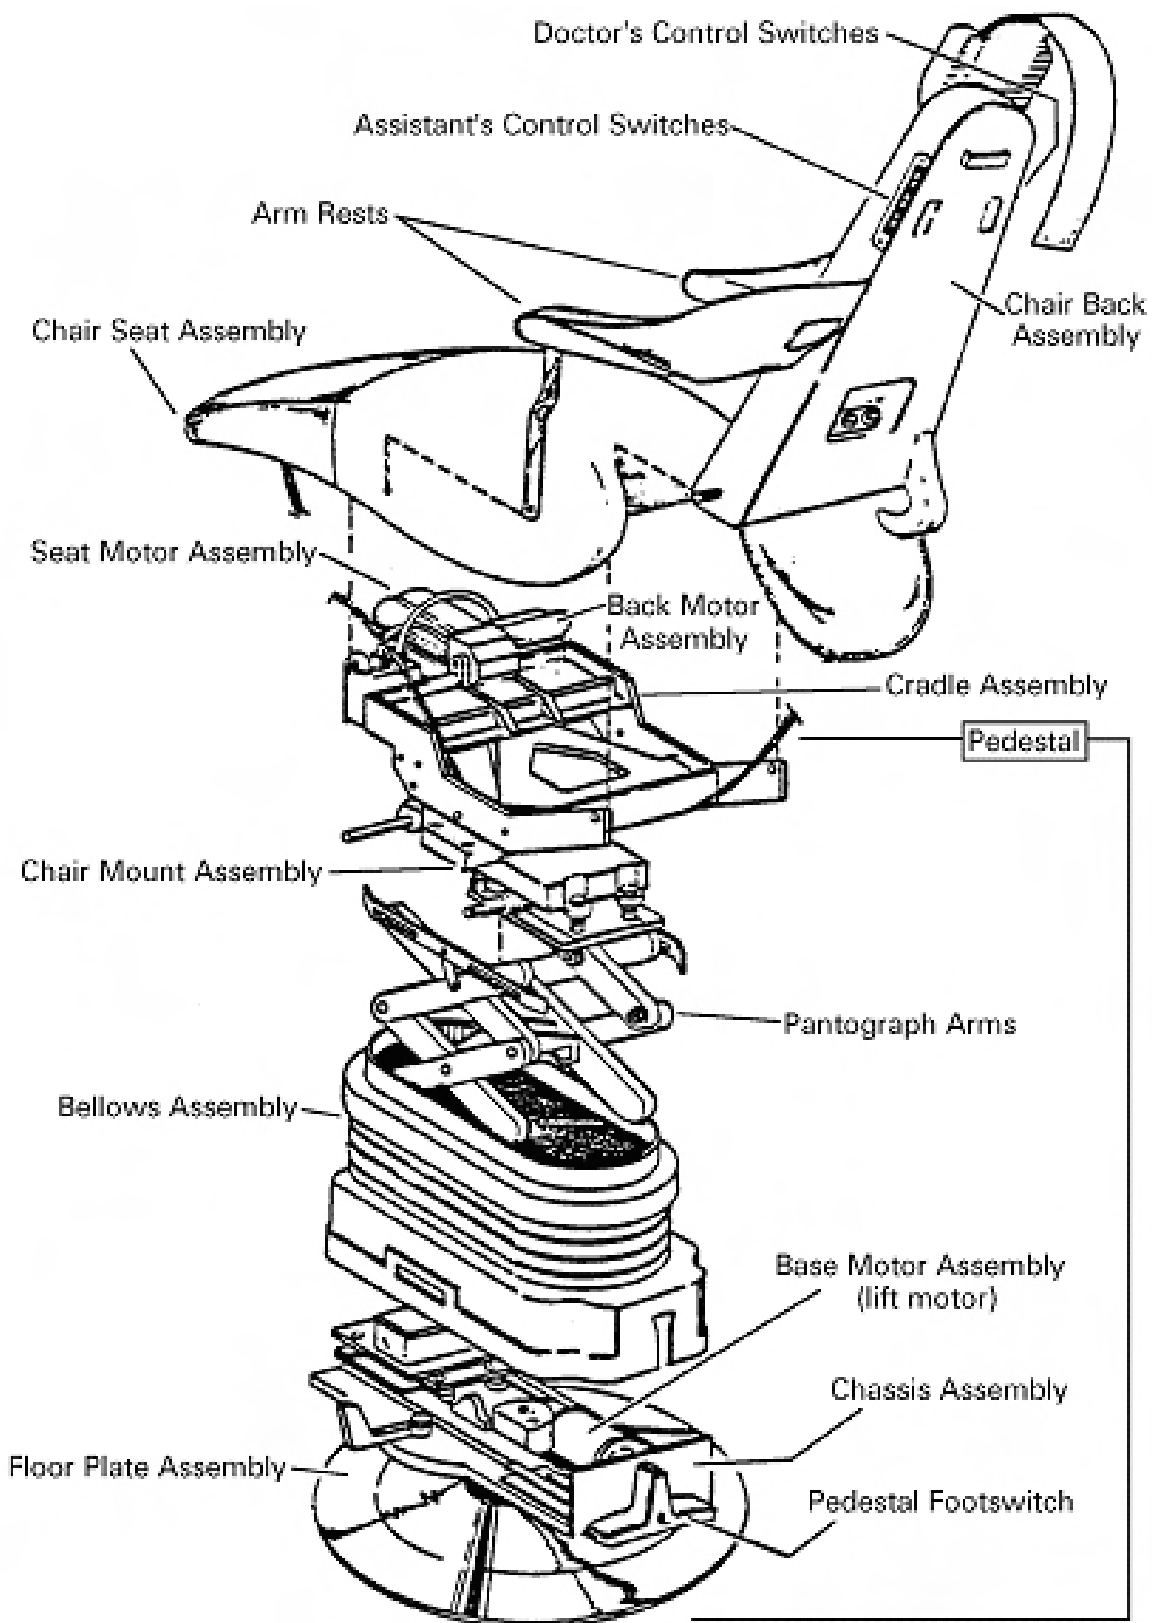

Figure 1-1. Dental chair components.
a. **Dental Chair Component Overview.** Refer to figure 1-1. The dental chair consists of the following components.
- (1) Floor plate assembly.
- (2) Chassis assembly that houses the base motor assembly, the foot switch, and the brake pedal.
- (3) Bellows assembly.
- (4) Pantograph arms.
- (5) Chair mount assembly.
- (6) Cradle assembly that houses the chair back motor, the chair seat motor, and the AUTO/MANUAL mode toggle switch.
- (7) Chair seat assembly.
- (8) Chair back assembly that houses the control buttons.
- (9) Arm rests.
(1) By using the foot switch, located on the pedestal.
(2) By using the three-position switch on the bottom of the assistant's controls (the left side of the chair as viewed from the back).
(3) By using the bottom switch on the doctor's controls (the right of the chair as viewed from the back). This switch is for automatic operation only. There are three functions: raise, tilt, and recline.
e. **Doctor's Controls.** Refer to figure 1-1. The doctor's controls are located at the top of the back rest on the right side of the chair as viewed from the back.
(1) The uppermost switch is the back adjustment.
(2) The center switch is for the seat adjustment.
(3) The bottom switch is for automatic operation. Depressing the automatic operation switch will recline, tilt, and raise the chair, all at the same time. This multi-directional function is referred to as operate. Depressing the switch downward will bring the chair to the upright and lowered "exit" position.
f. **Assistant's Controls.** Refer to figure 1-1. There are three switches located on the assistant's side (left) of the chair back.
(1) They have the same function as the doctor's controls with the exception of the lowermost switch.
(2) The lowermost switch raises and lowers the chair.
(3) Additionally, the AUTO/MANUAL mode toggle switch is located under the chair on the assistant's side of the chair.
g. **Pedestal Controls.** Refer to figure 1-1. There is one foot switch at the rear of the chair that can be operated from either side.
(1) It manually raises and lowers the chair. It is used in conjunction with either the manual control switches or the manual toggle switch.
(2) When operated from the doctor's side, pushing the foot switch forward, raises the chair.
(3) When operated from the doctor's side, pushing the foot switch to the rear lowers the chair.